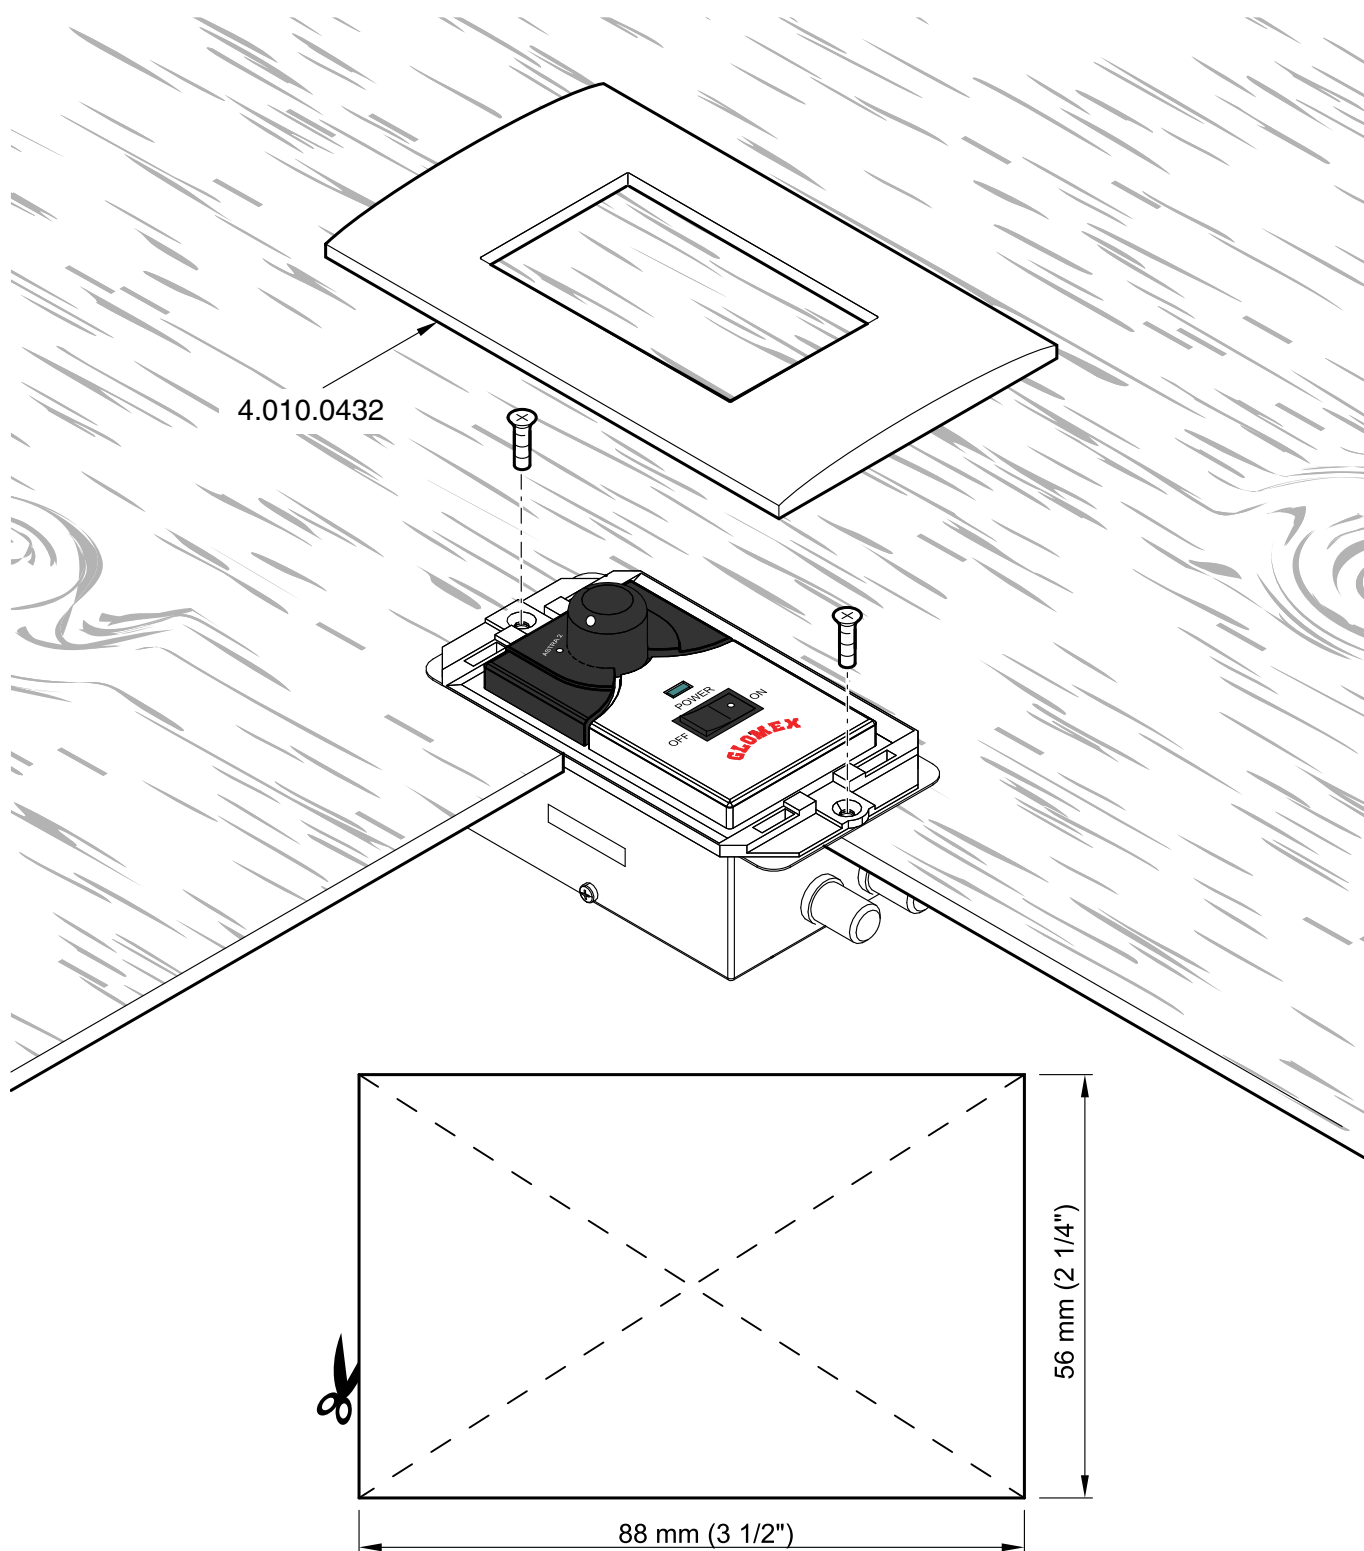

Fig. 20
7. As an alternative, the control unit can be built-in using off-the-shelf plates (3-module) or the GLOMEX accessory (code 4.010.0432, see **Fig. 20**) by boring a hole with a reciprocating saw and using the drill with 2.5 mm bit (use the cutting template on the following page for the correct dimensions).